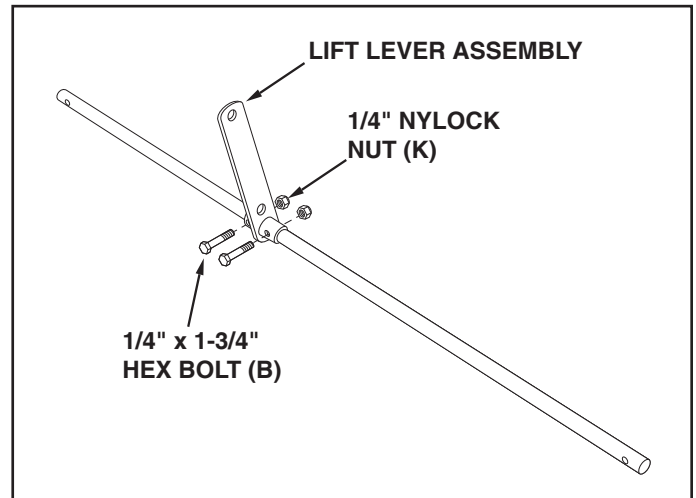

FIGURE 2
3. Attach the lift lever assembly to the two holes in the middle of the shaft using two 1/4" x 1-3/4" hex bolts (B) and a 1/4" nylock nuts (K). **Tighten.** See figure 2.